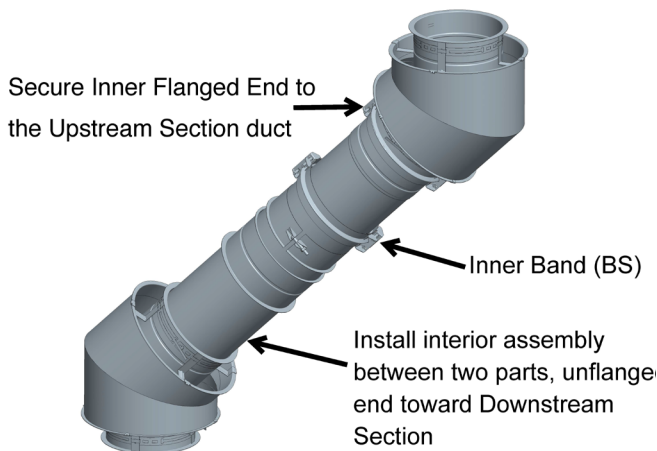

Figure 36 - Step 4-5- Install the inner LV and secure the outlet end flange
Step 5 - Assemble the outlet end sliding innerwall to the outlet end section as a regular section (See JOINT ASSEMBLY section). See **Figure 36**.